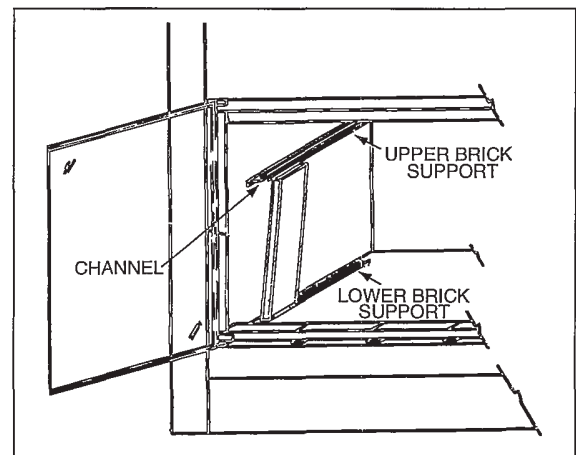

Figure 26
- 2 Set bottom of brick into lower brick support (three pieces per side) See Figure 26